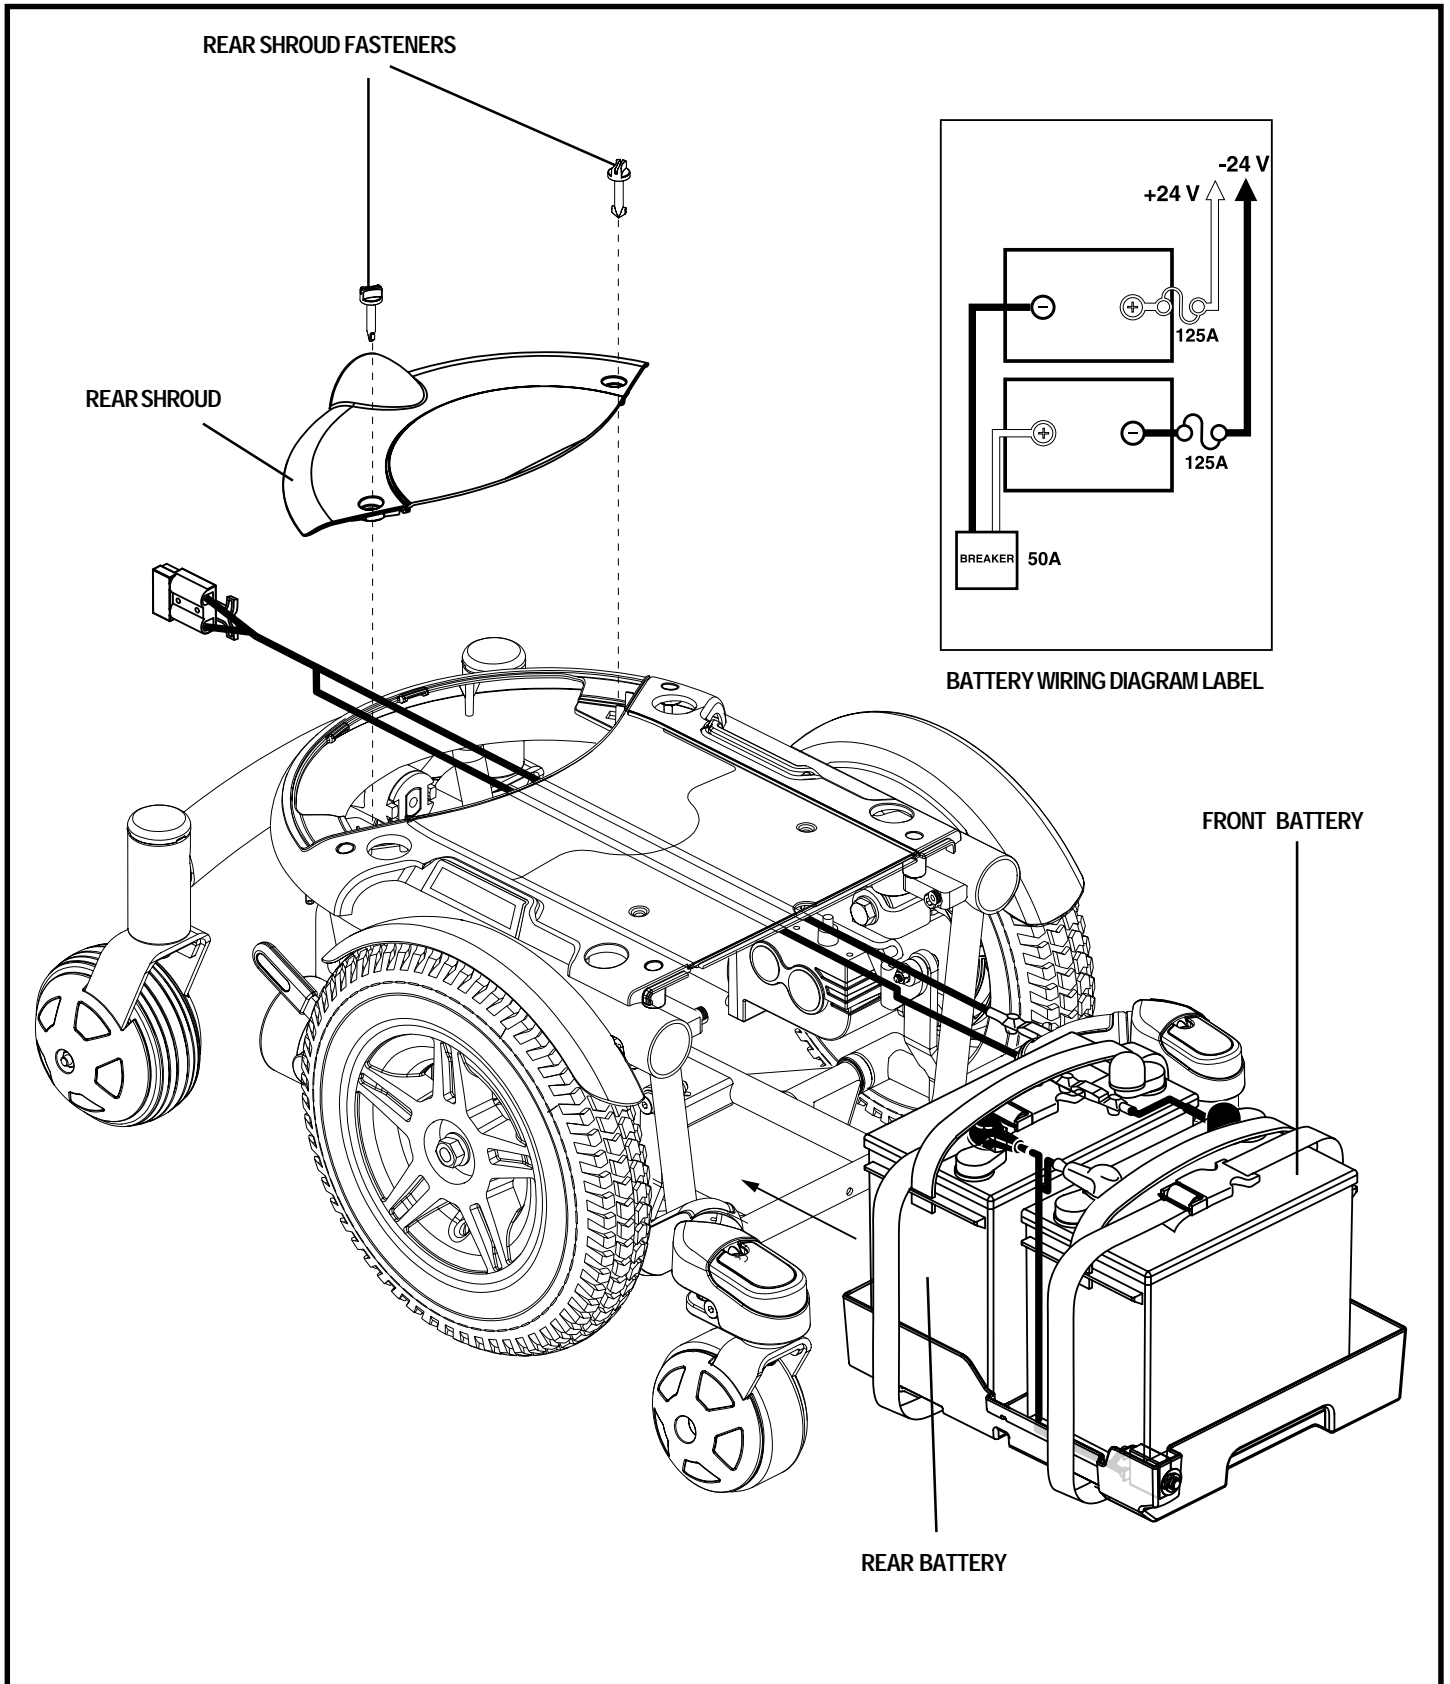

Figure 29. Battery Installation
3. Turn the rear shroud fasteners one-quarter turn in any direction. See figure 29.
13. Connect the battery harness to the front battery according to the battery wiring diagram. See figure 29.